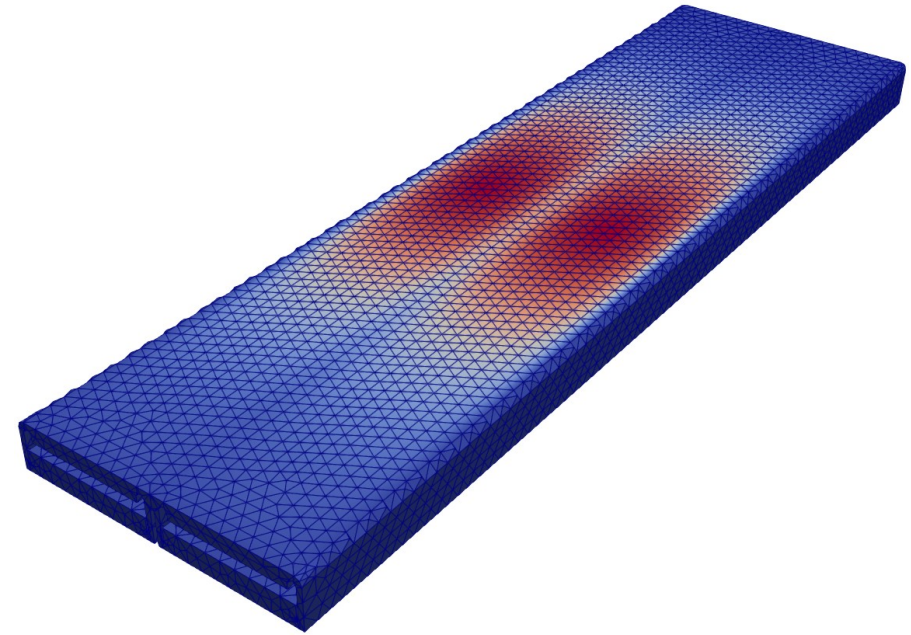

Figure 5: Hypervapotron model with temperature distribution shown across the top surface
- Gaussian heat distribution across the top surface (Figure 5)